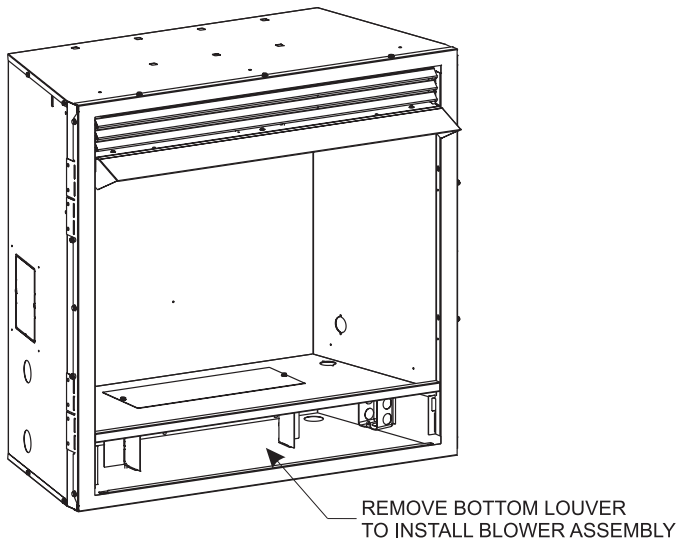

Figure 2 (Deluxe Louvered shown)
1. Determine which type of firebox you have prior to installation. See Figures 2 through 4.